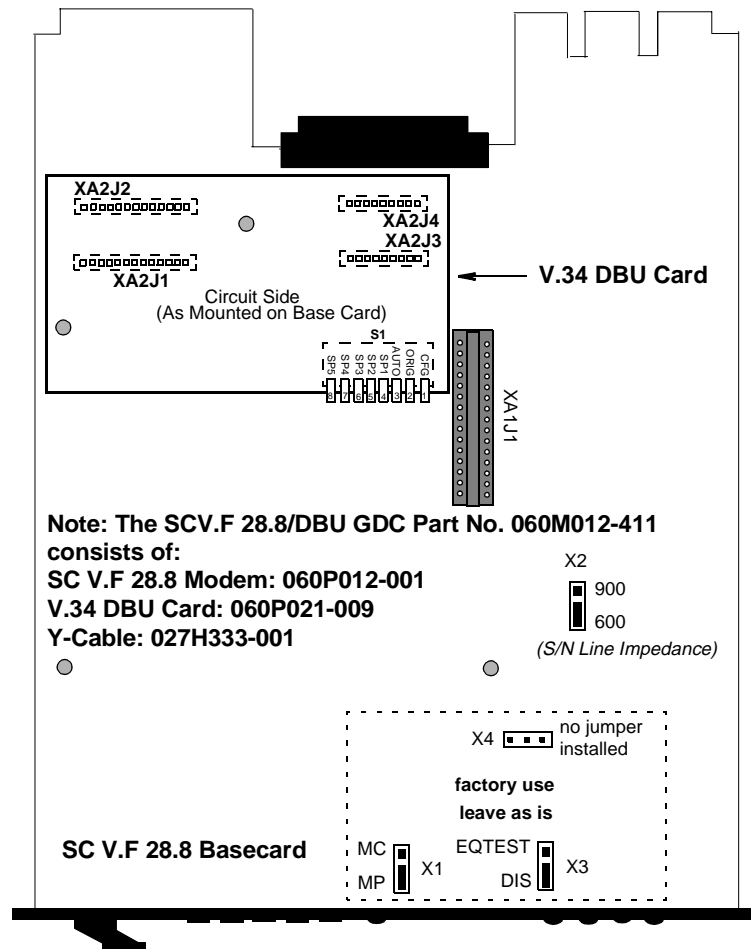

Figure 1 V.34 DBU Card Mounted On SpectraComm V.F 28.8/33.6 Basecard
The V.34 Dial Backup Unit (DBU) card is a plug-in piggyback card that is mounted on the basecard of the SpectraComm (SC) V.F 28.8/33.6 modem (see Figure 1). With it, you can use the V.F 28.8/33.6 modem to provide dial backup of the SpectraComm 521A or SpectraComm 500A DSU (Data Set Unit) or the SpectraComm 202 private line modem.